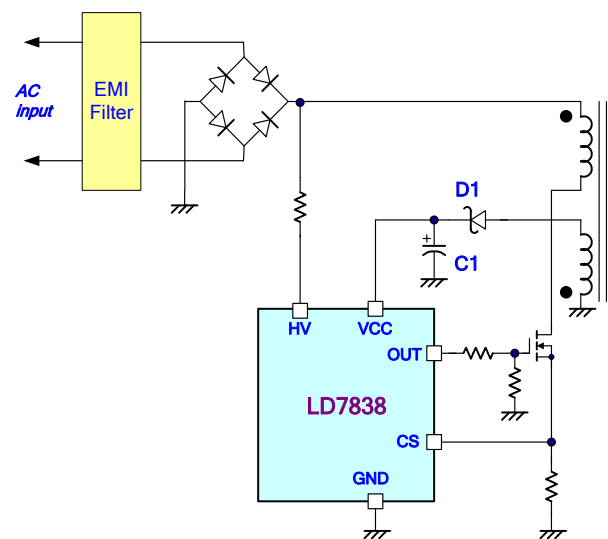

Fig. 13 High voltage start up circuit
To achieve optimized topology, as shown in Fig. 13, LD7838 is implemented with a high-voltage startup circuit to enhance it. During startup, a high-voltage current source sinks current from the full-bridge rectifier to provide the startup current and charge Vcc capacitor C1 at the same time. On condition of VCC below UVLO(ON), the charge current will increase to 1.8mA once V_{CC} rises above UVLO(ON) voltage threshold during start up. Meanwhile, it consumes only 75μA for V_{CC} supply current, that most of the HV current is